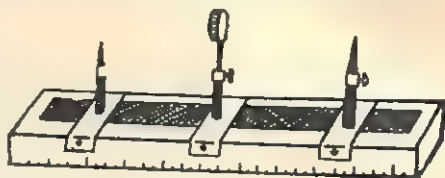

Fig. 11.9. Optical Bench.
**6. Optical Bench.** It consists of a metallic or a wooden bed on which three or four uprights can slide along its length as shown in Fig. 11.9. These uprights are rigid and can be fixed in any position. They carry the optical parts like mirror, object and image needles. These uprights may be given a side motion also so that the pole of the mirror and the tip of the needles may be arranged in the same vertical plane. A millimetre scale is also fitted on the bed along its length so as to read the position of the uprights, sharp *indices* are marked on the bases of the uprights, which help in noting down their positions on the scale. The sketch of a simple optical bench is shown in Fig. 11.9.